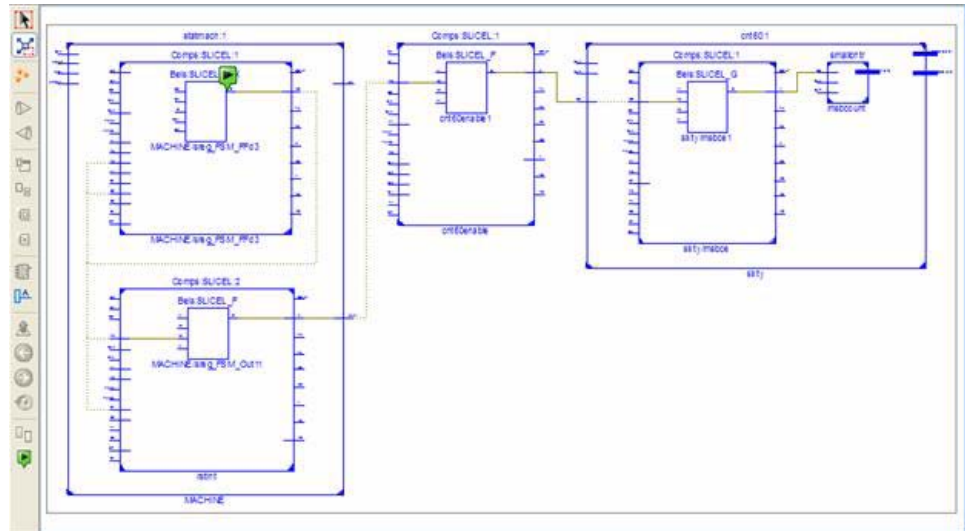

Figure 6-5: Schematic Viewer
- Selecting (1) **Maximum Data Path...** allows you to visualize the entire data path
- Selecting (2) a net from the Physical Resource column visualizes just a portion of a data path connected by a selected net
- Right click on **Maximum Data Path...** and select **Show in Technology Viewer**. This will draw the selected data path in the Schematic Viewer as shown in Figure 6-5.